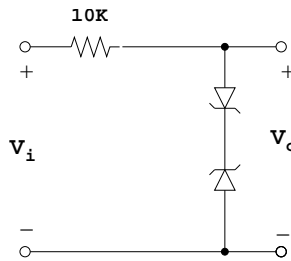

Figure 3.
7. Use two 4.3 V zeners in series as shown in Figure 3. With a larger input what does the circuit do? Plot the transfer function. Explain the transfer function (knowing the the zener voltage at 0.1 mA helps).